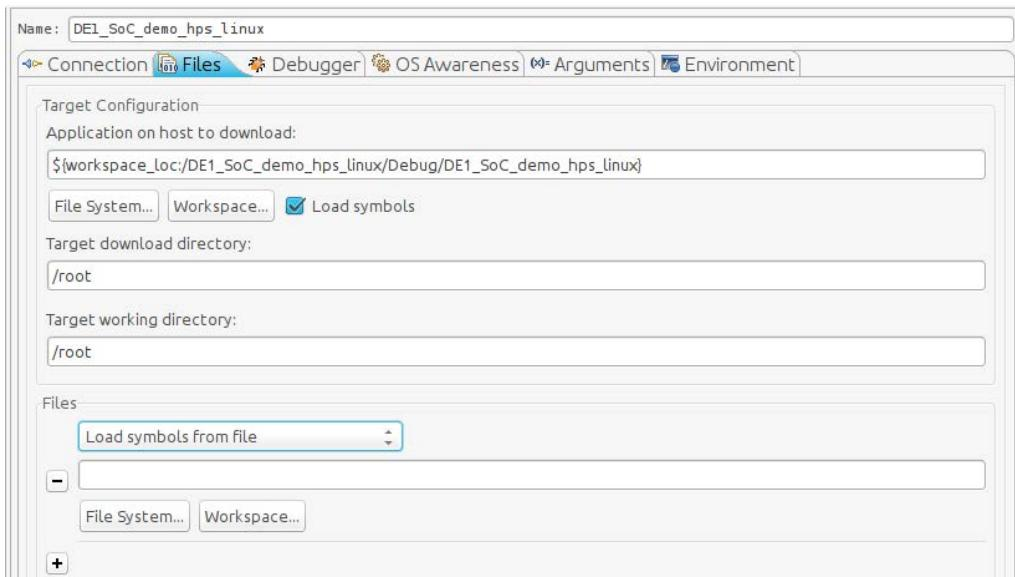

Figure 13-10. Debug Configuration "Files" Tab
- c. Set the “Target working directory” to “/root”. You should have something similar to Figure 13-10.